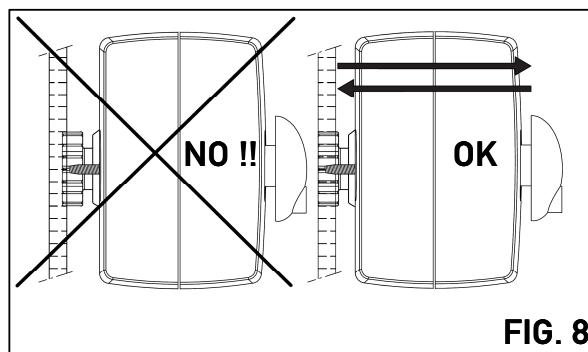

FIG. 8
12. Check that the mesh of pinion and rack is correct (Fig. 8), the rack teeth must engage the pinion teeth throughout their full thickness. If not, adjust the position of the operator by sliding it in required direction.